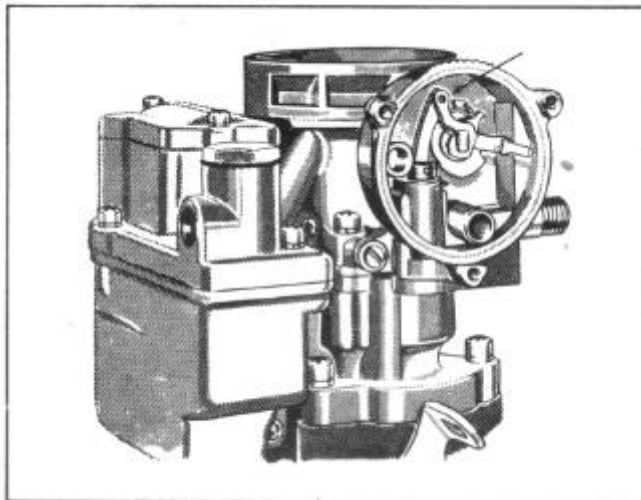

FIGURE 86
22. Install choke piston, lever, link and shaft, Figure 86.